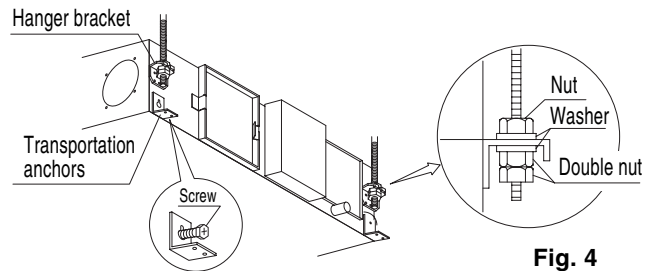

Fig. 4
- Attach the hanger bracket to the suspension bolt. Be sure to fix it securely by using nuts and washers (locally procured) from the upper and lower sides of the hanger bracket. (Refer to Fig. 4)